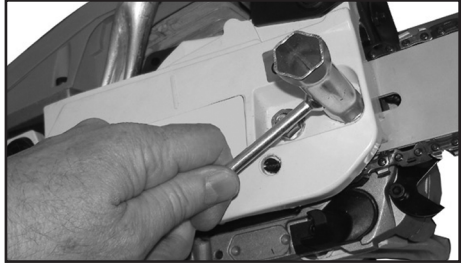

Fig. 1
1. Unscrew the two bar fastening nuts situated next to the chain tensioning screw. (Fig.1)